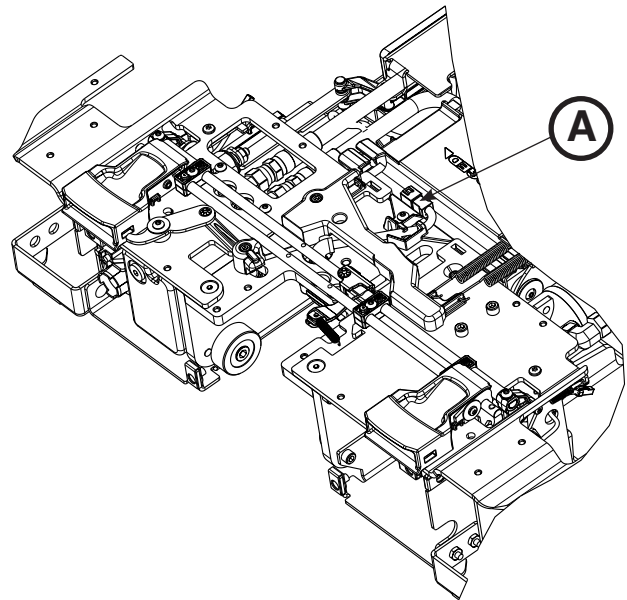

Figure 79
5. Remove the return spring (D) (Figure 79). Save for reinstallation.
3. Unplug the TPS cable (A) from the main cable assembly (Figure 79).